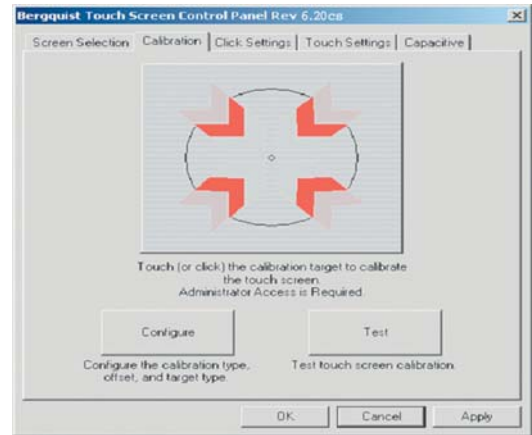

Figure 9
1. Click the "Calibration" tab. The **Calibration** screen will appear (see Figure 9).
1. On the Calibration tab of the Control Panel (see Figure 9), click "Test."